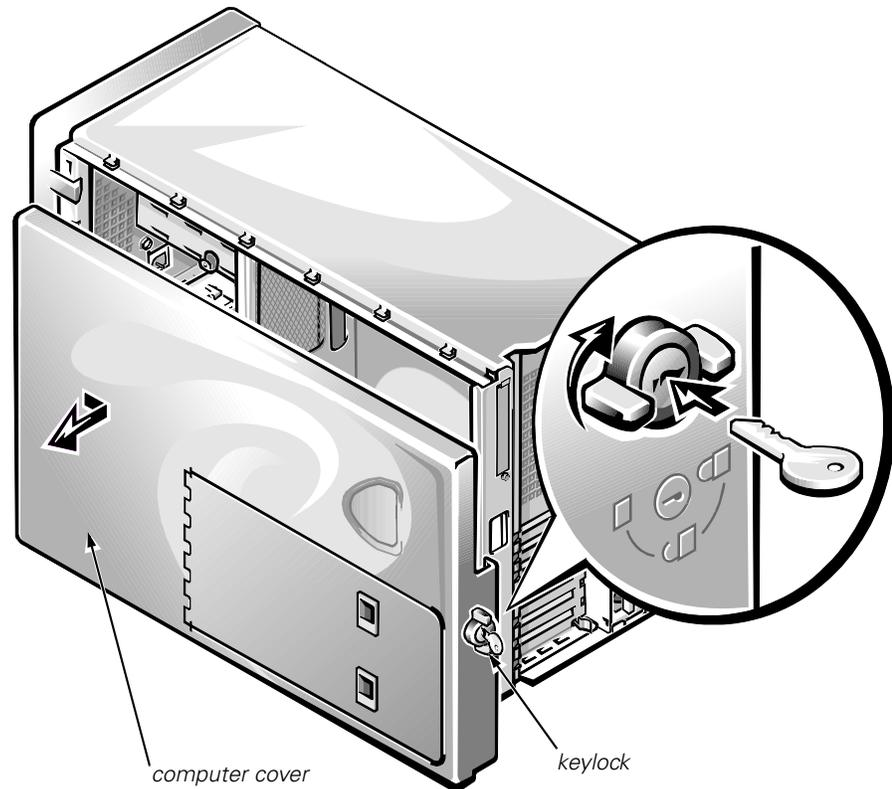

Figure 4-1. Computer Cover Removal
- 1. Turn the keylock on the back edge of the cover clockwise to the unlocked position (see Figure 4-1).**